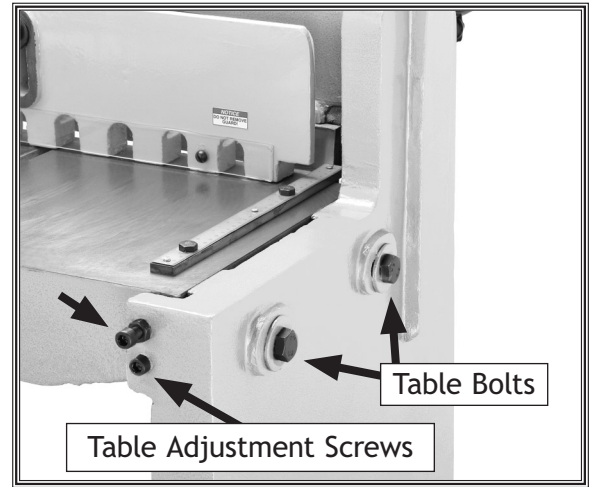

Figure 9. Adjustment screws.
1. Loosen, but do not remove the two table bolts and table adjustment screws on both sides of the foot shear (see **Figure 9**).